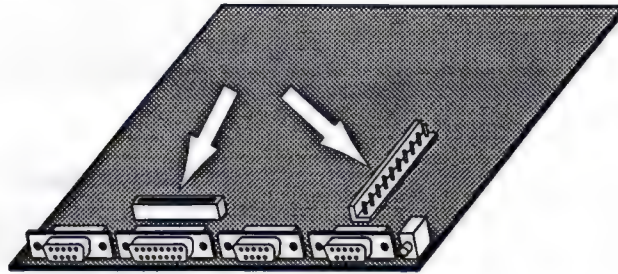

Figure 5 : Motherboard connectors for Mac 128K, 512K and 512Ke
2. Attach the alligator clip of the CRT discharge tool to the metal part of the ground lug exactly as shown in Figure 5; *Do not clip onto the chassis.*